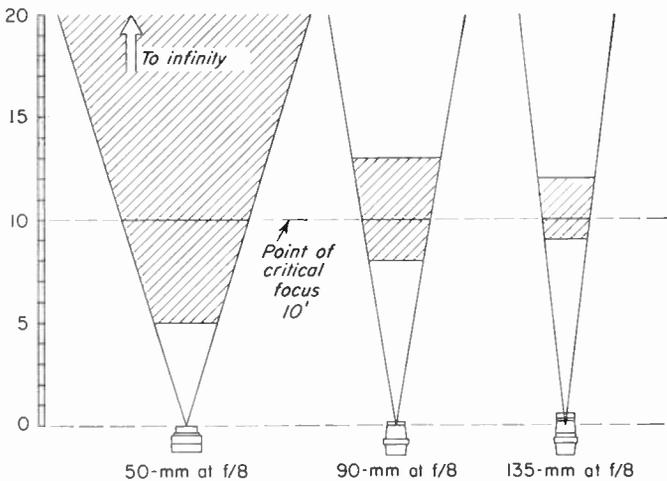

Fig. 5-29. Comparison between depth of field in three standard lenses focused on a point 10 feet distant.
**Focal length of lens and depth of field.** The third factor which determines depth of field (and depth of focus) is the focal length of the lens. A short lens has a greater depth of field than a long lens, when both are set at the same diaphragm stop and *focused for the same distance*. Figure 5-29 shows the differences in the depth of field of three standard lenses.